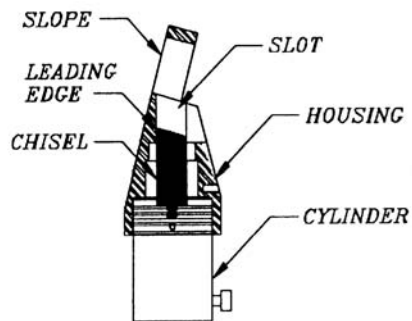

Figure 9
4. Connect the quick disconnect (10) to a hydraulic pump using a 10,000 PSI hydraulic hose. Refer to Power Requirements on Page 3 for appropriate hose and pump.
6. Place the housing (1) on the hydraulic cylinder (9). The chisel (4) will project into housing. Make sure that the longest edge of the chisel is on the same side as the slope of the housing (1). See *Figure 9*.
7. Completely thread the housing onto the cylinder while the chisel is extended. Back off the housing one full turn. Lock in place by inserting the set screw (2) on the side of the housing and tightening with the Allen Wrench (3).